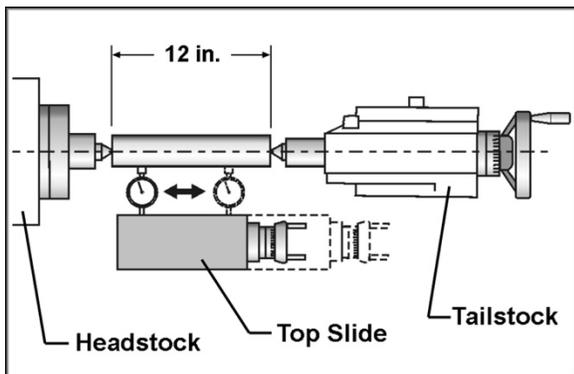

Figure 14-7: Tailstock/Headstock Alignment
1. Fit a 12" ground steel bar between centers of the headstock and tailstock (Figure 14-7).